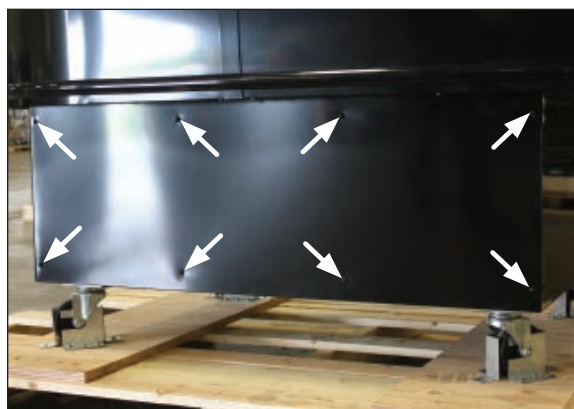

Fig. 5 Lower panel and screw locations
1. It is very important that you remove the shipping block from the compressor prior to installing or running the case. To expose the compressor for shipping block removal first begin by removing the lower rear toekick panel located on the side of the case (Fig. 5). **Note: These screws are required in order to reattach the lower panel so it is highly recommended that they be kept in a secure location until needed again.**
case (Fig. 5). **Be sure to save the removed screws for reassembly.**